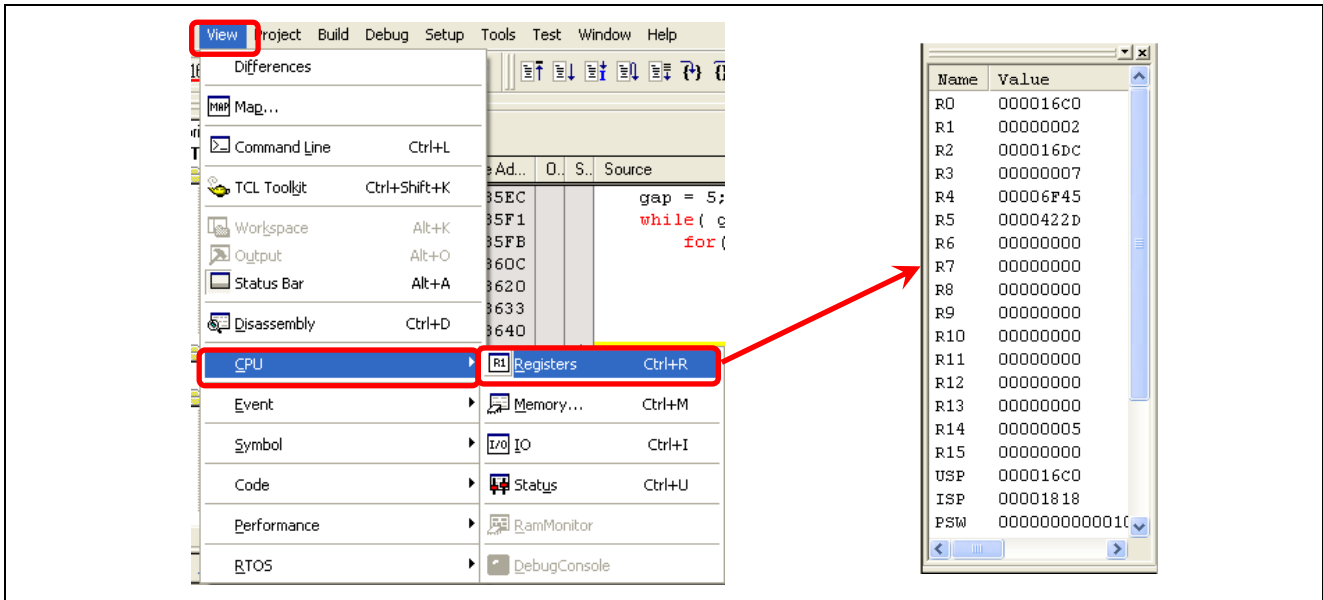

Figure 4.45 Opening the [Register] Window
- (1) Select [View -> CPU -> Registers] as shown in Figure 4.45 to open the [Register] window.